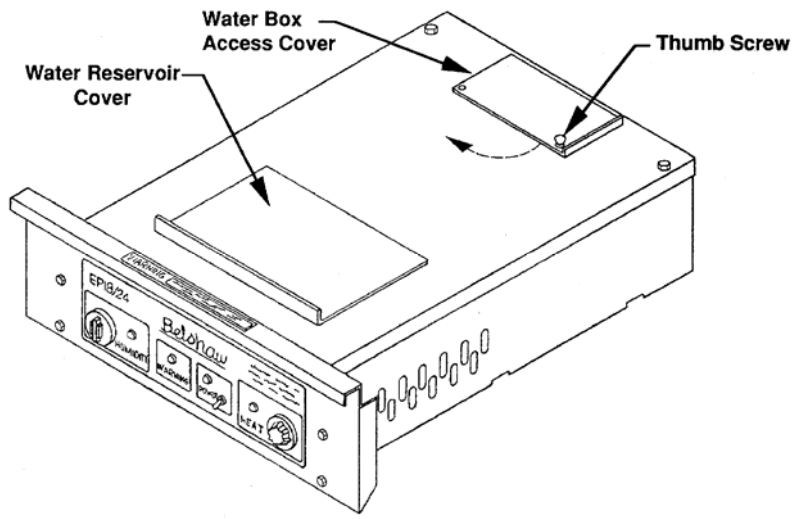

FIGURE 3
1. Lift off water reservoir cover and fill water reservoir (see Figure 3). If necessary, open the lower door(s) and remove screen(s) or tray(s) to access the water reservoir. Do not fill beyond ½” of the top edge. When finished, replace the cover and doors. If equipped with the autofill unit, turn on the water and the filler unit will stop at the correct water level.
- d. Remove water box access cover thumb screw and rotate access cover to open position. (see Figure 3)